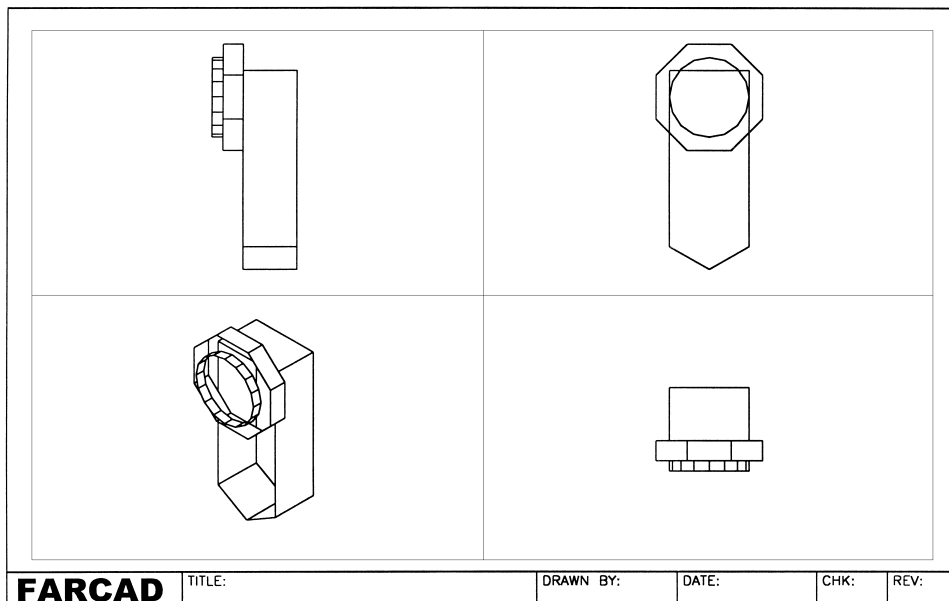

Figure 23.7 The completed wall clock created from inserted wblocks.
- 6 Zoom centre about the point 0,-30,80 at 200 magnification in all viewports – Fig. 23.7